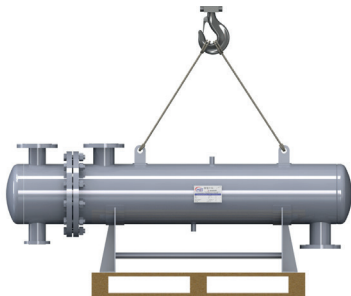

Figure 2
- During the transportation of the heat exchanger by crane, eyebolt on the exchanger should be used (Figure 2 Pass the hook at the end of the crane boom through the carrying ring of the heat exchanger).